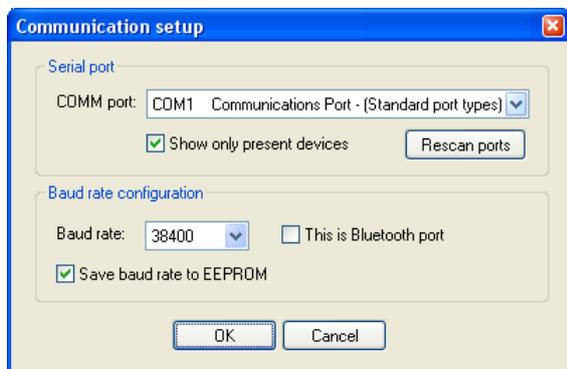
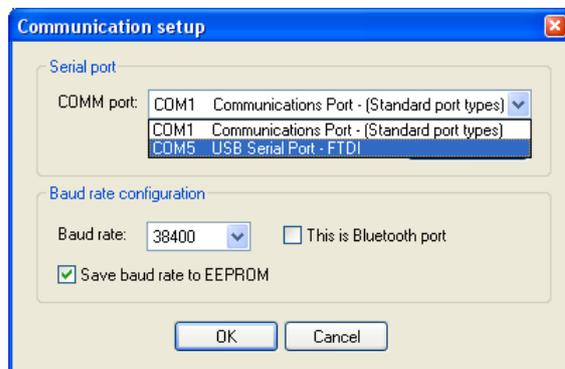

Figure 3.3
Figure 3.4
**Communication setup** or by pressing the icon, that opens dialog in Figure 3.3. It is necessary to press the **Rescan ports** button and to choose the desired port in drop-down menu (Figure 3.4). In this case it is COM5.